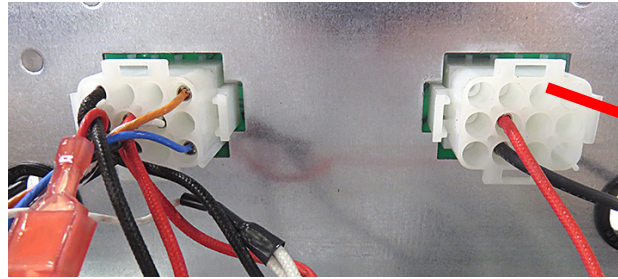

Figure 9
11. On the rear of the control box are two (2) connectors that attach to the rear of the interface board (see Figure 9). The photo is viewed from inside from the rear of the fryer. \*Note the Pin 1 is on the lower right corner. From the front of the fryer it would be on lower left.
12. Reach up through opening where blower was removed and locate the plugs shown above in Figure 9.